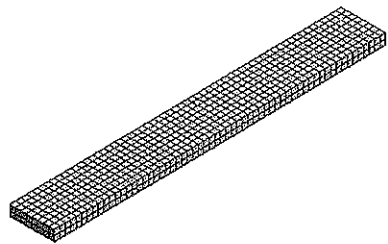

Figure 10-15 Mesh generated for the model
6. Choose the **Generate Mesh** tool from the **Mesh** drop-down in the **Mesh** contextual toolbar; the mesh is generated, as shown in Figure 10-15.